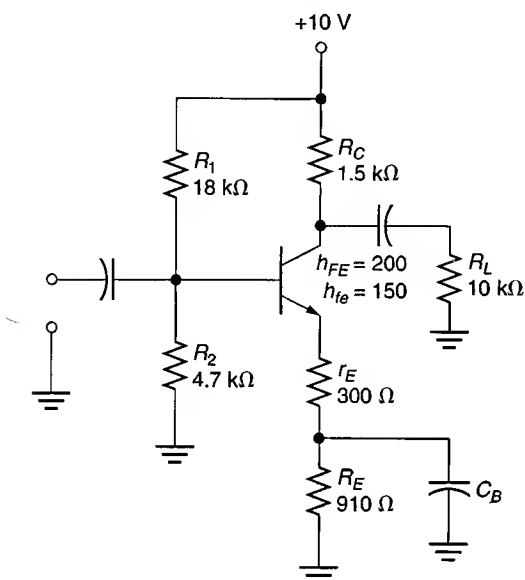

FIGURE 9.20
Determine the value of A_v for the amplifier in Figure 9.20.
Assume that the amplifier in Figure 9.20 has values of $R_E = 820 \Omega$ and $r_E = 330 \Omega$. Determine the value of A_v for the circuit.
Determine the value of Z_{in} for the amplifier shown in Figure 9.20.
4. What effect (if any) would removing the bypass capacitor in Figure 9.20 have on the circuit's voltage gain? Explain.